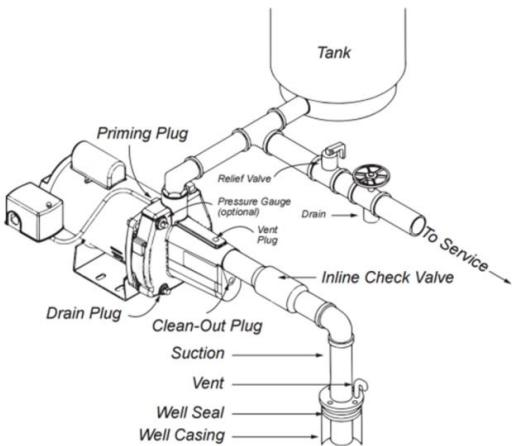

FIG. 2B SHALLOW WELL (WITH INLINE CHECK VALVE)
- b) Suction Pipe:** It is recommended that only new, clean 1-1/4 inch pipe or hose be used. If the pump is installed any appreciable distance away from the source of water, the suction pipe should be increased to 1-1/2 inches. Horizontal lengths of pipe must gradually slope upwards from the source of water to the pump to avoid air pockets in the line. Thread compound should be used on all pipe joints and connections should be thoroughly tightened. A foot valve must be installed and its operation should be checked since a leak will prevent proper operation of the system. Make sure the foot valve is located so that it will be submerged at all times. If a sand point or driven well is used, install a check valve next to the pump suction instead of the foot valve (Fig. 2b). All installations must have a foot valve or a check valve in the suction pipe.